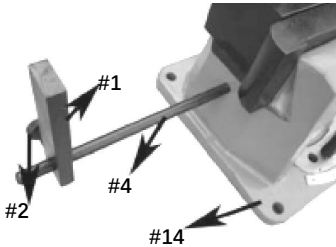

Figure 2
3.Insert screw bolt (#4) into the hole on base (#14), and then tighten set screw (#2) to make support plate (#1) fix tightly with screw bolt (#4). (refer to figure 2).